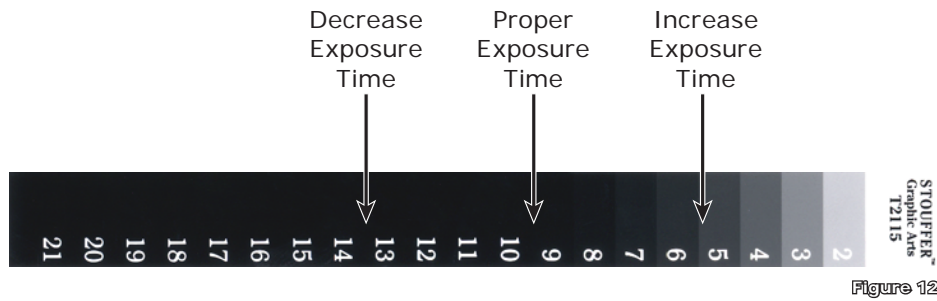

Figure 12
**STEP 3 - EXPOSURE TIME DETERMINATION:** To ensure proper cliché life and quality results using the AQUAPRO clichés, you will need to get a step value between 9 and 10 on the 21 step grey scale (Figure 12)